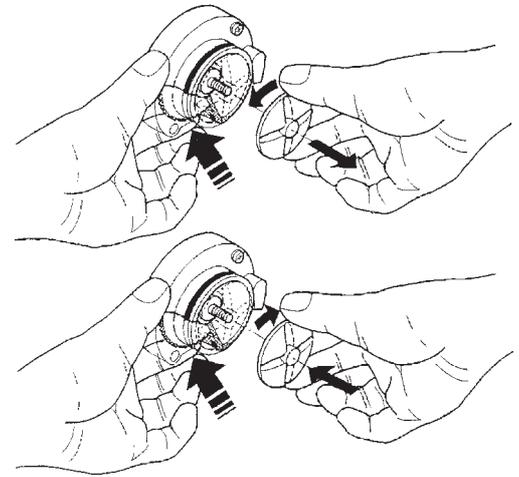

Fig. 24
- in order to remove the impellers, block the disk fitted on the mixer shaft with a finger (see Fig. 24);